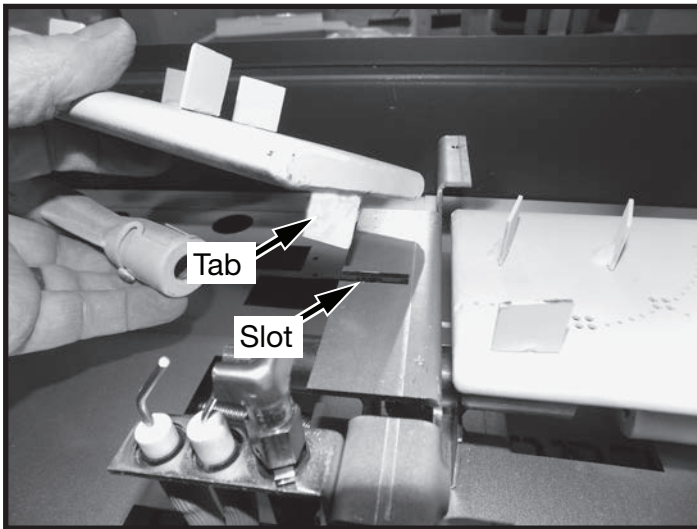

Figure 9: Installing left hand burner tab to center leg.
8. The left hand burner has a tab on its underside. This tab will fit into the slot located on the top of the center leg (Figure 9).